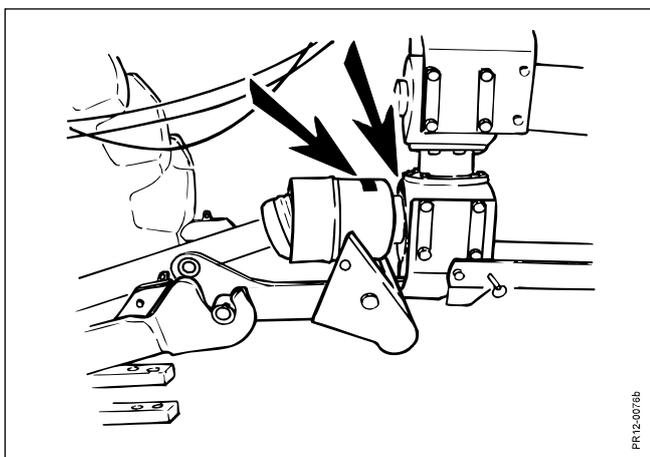

Fig. 2-8
Fig. 2-8 The machine is marked so that the actual gearing is shown clearly on the front part of the swivel gearbox and the protection guard at the PIC shaft (see the decal on the machine on page 12 and 13, pos. 13). If, for some reason, this decal is missing the gearing should be re-checked.